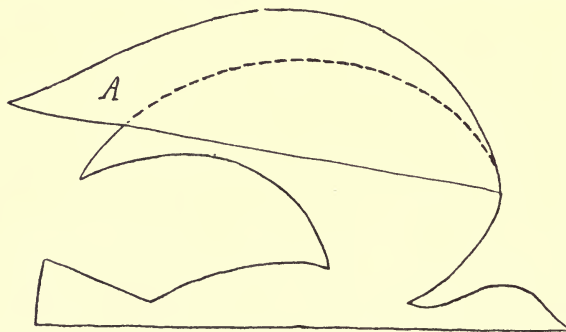

FIG. 477
(4) If the bird rises and then falls the head is too light and probably not long enough.
(5) The wings can be made larger if necessary by the addition of tissue-paper wings gummed on as A in Fig. 477.